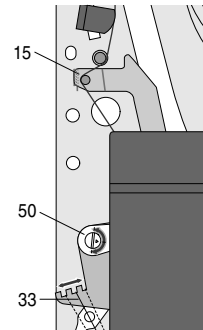

Fig. 27
- Adjust the tension pole adjuster (Pos. 50) so that the tension arm (Pos. 15) just reaches the mark on the mechanism chassis (Fig. 27).
- By changing the hook-on position of the tension spring (Pos. 33, Fig. 27) set the brake force of the supply reel to 3.6...5.2mNm (36.5...52gcm).